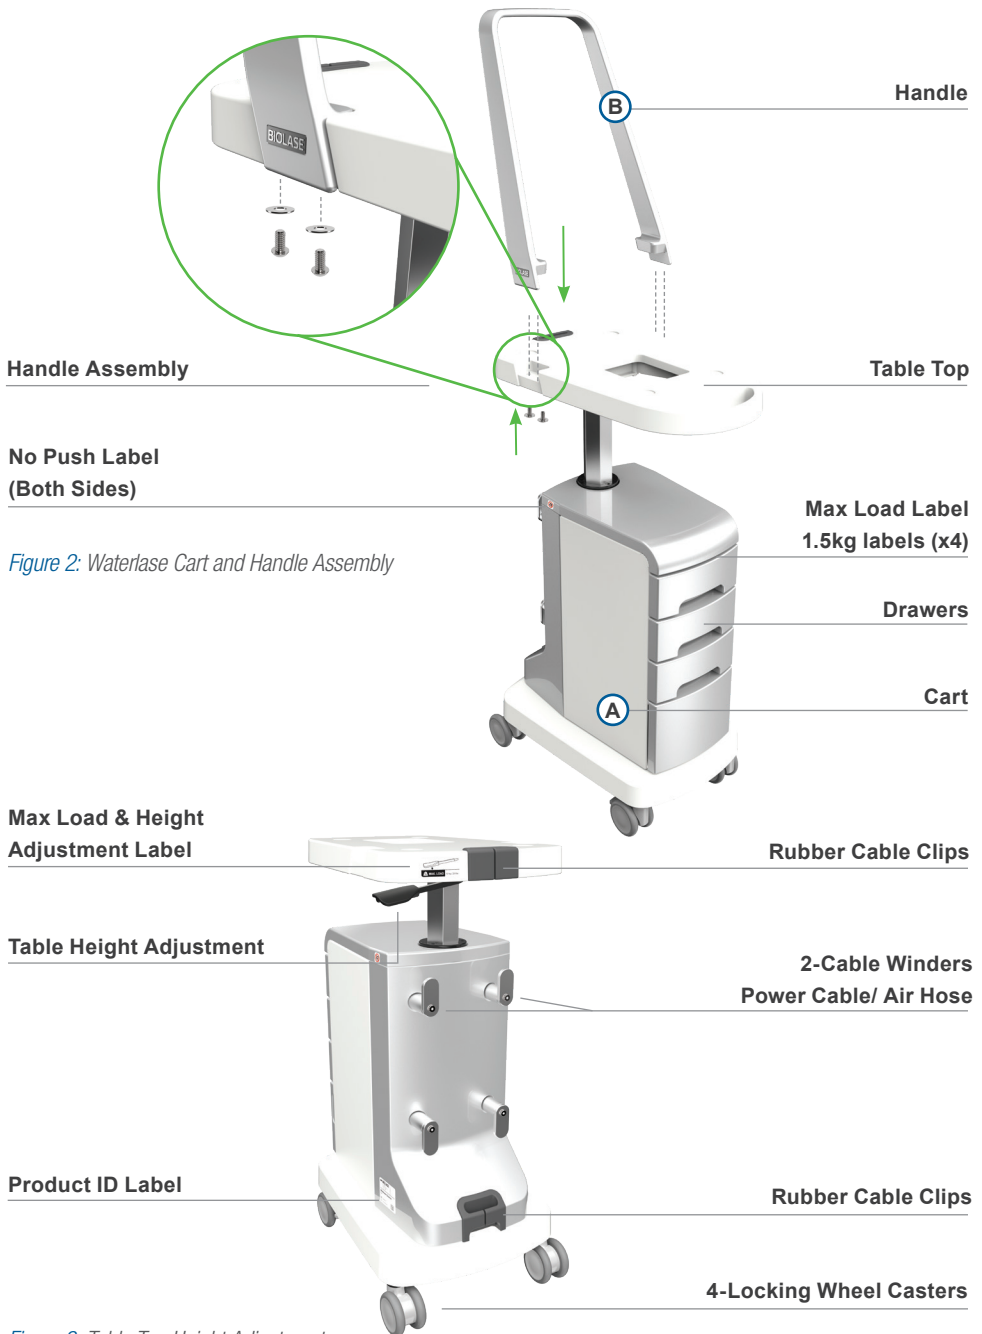

Figure 3: Table Top Height Adjustment
3. Raise the table top to its highest position by actuating the black lever underneath the table top. See **Figure 3** for reference.